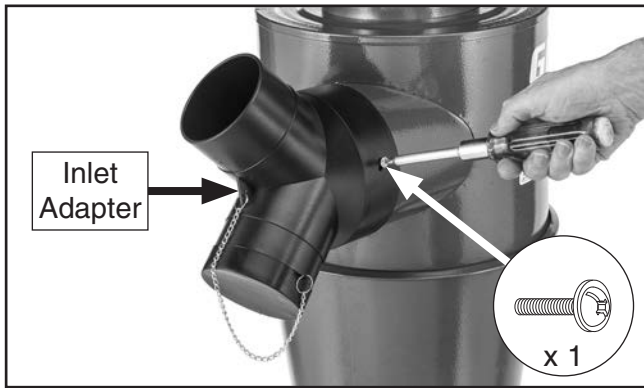

Figure 17. Installing inlet adapter on dust port.
22. Install inlet adapter on dust port and secure with 10-24 x 3/8" flange screw (see **Figure 17**).